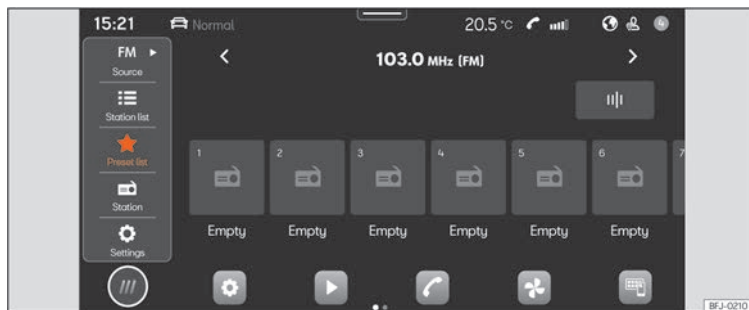

Fig. 141 Schematic representation: Radio view
- Press **HOME** > >>> **Fig. 141**.